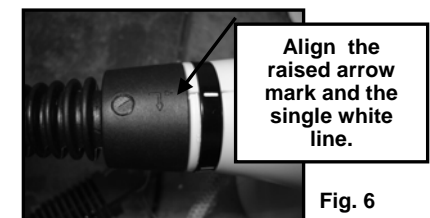

Fig. 6
- To lock the hose in place, turn it 90 degrees clockwise so that the raised arrow mark aligns with the two white lines on the ring of the snout. (Fig. 6)
- To lock the concentrator nozzle in place, turn it 90 degrees clockwise so that the raised arrow mark aligns with the two white lines on the ring of the snout. (Fig. 6)